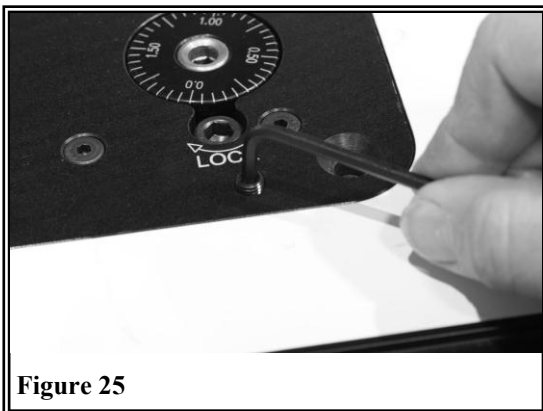

Figure 25
With the Rout-R-Lift™ Prestige in the table top opening, install (10) set screws into the holes around the lift perimeter. Adjust (Figure 25) the four corners first to align the lift surface to the table surface so that both are flush. Adjust the remaining set of screws on the sides to provide added support.